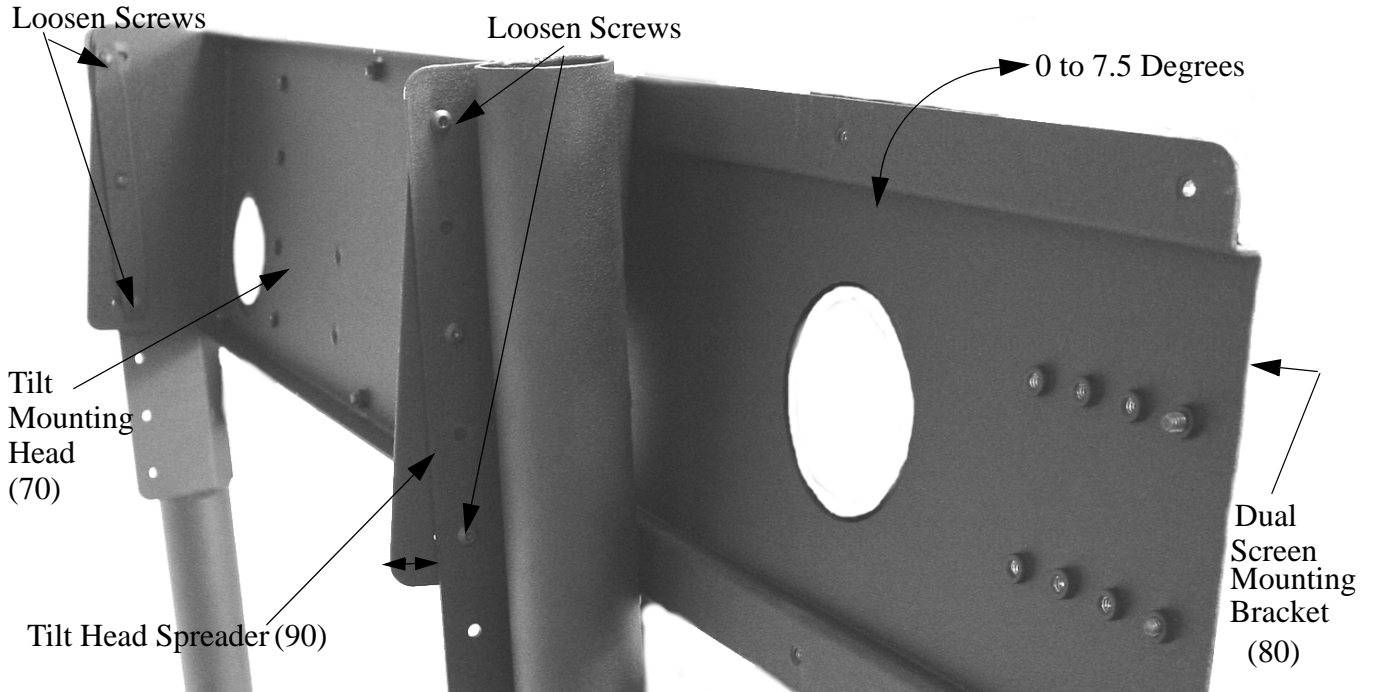

Figure 5. Adjust Tilt Mounting Head
- Adjust tilt head (70) to desired tilt by slightly loosening four 1/4-20x5/8" button head cap screws (130) securing tilt head spreaders (90), adjust tilt head to desired angle (0° to 7-1/2°), and tighten four 1/4-20x5/8" button head cap screws (130). See Figure 5).